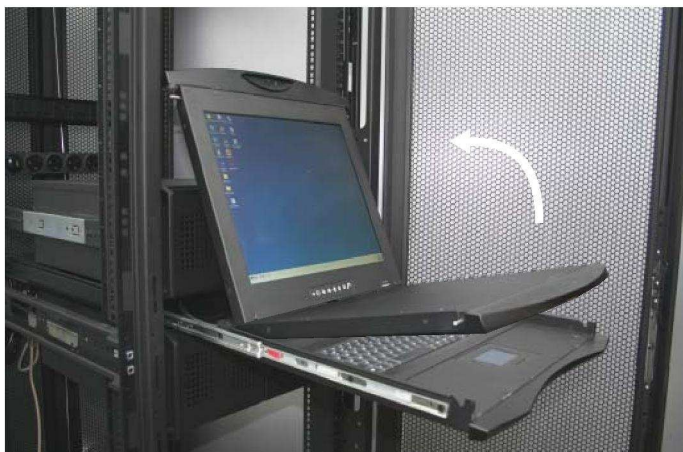

Figure 5. Flipping up the LCD to a suitable angle.
- Flip up the LCD to a suitable angle shown in **Figure 5**.